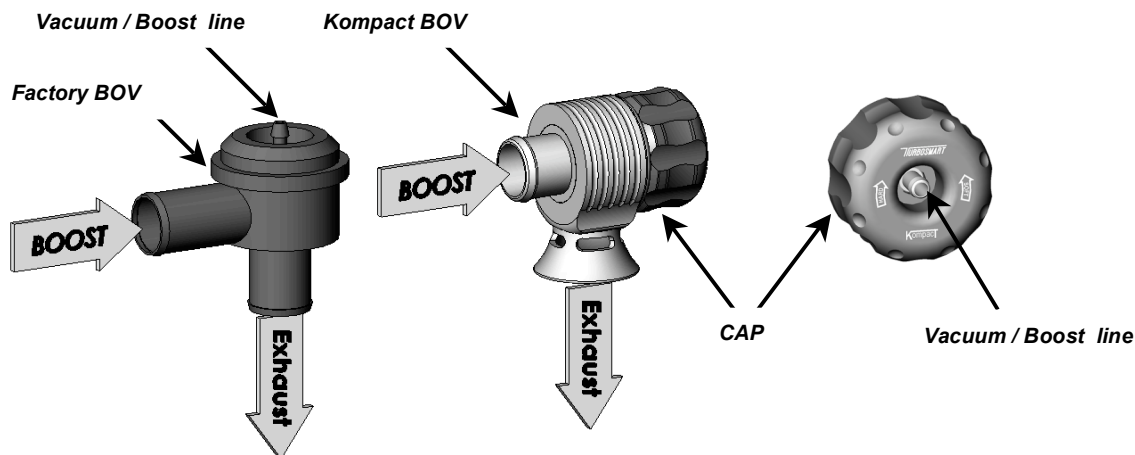

Figure 1 Orientation of Kompact SS BOV
- Remove the factory BOV **noting the positions of the boost hose and the exhaust hose**. You will have to fit the Kompact SS BOV with reference to the boost hose and blank off the exhaust hose. (see fig. 1). For more information on fitting, see the Turbosmart website.
- Connect the factory boost hose onto the Kompact SS BOV (As shown on Fig. 1).